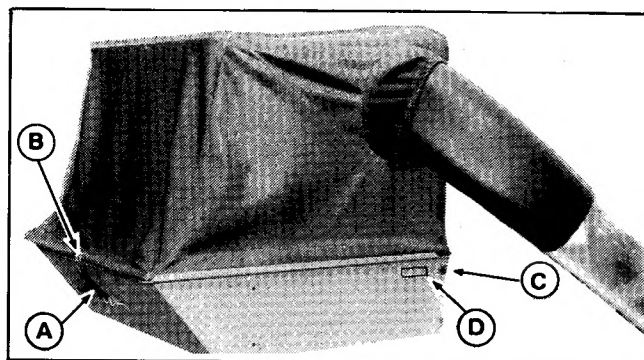

Figure 11.
7. Insert an "S" hook to each end of the strap (A, figure 11). Hook one end through clip (B) and pinch closed with a pliers.
8. Pull the cover down so it appears as in figure 11. To secure the front, pull the cord loops (C) onto the spacers. To secure the rear, hook the strap (A) onto back of cart as shown.
9. Install warning decal (D, figure 11) so it is visible from right-hand side. Make sure surface is clean. Remove backing paper and tack edge of decal in position. Then apply decal with heel of hand, smoothing out bubbles. The edge of a ruler can also be used.
It is important for operator safety, that the warning decal be installed as shown in figure 11.